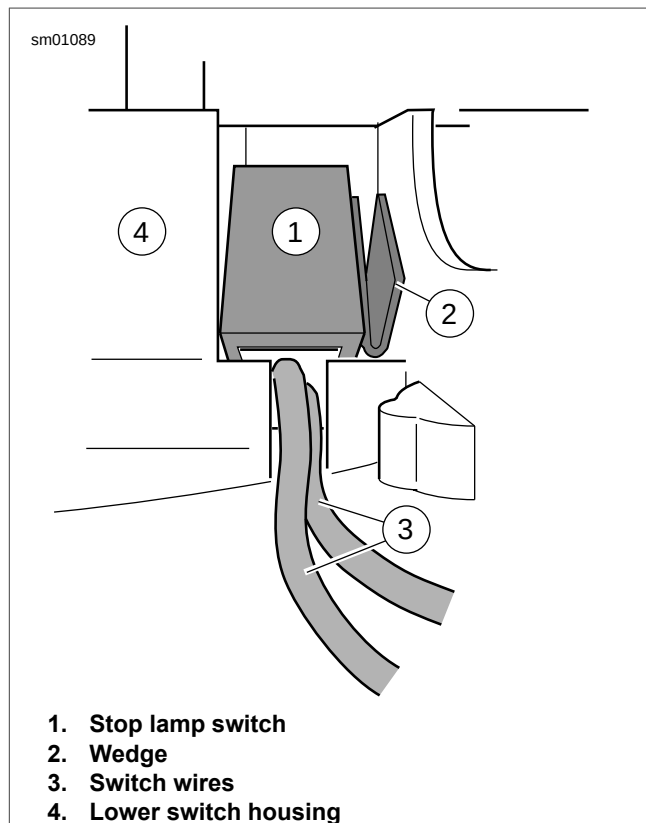

Figure 6-141. Install Stop Lamp Switch
6. See Figure 6-141. Push down on switch (1) so that it bottoms against housing and wires (3) run in groove at base of cavity. With the concave side facing outward, insert wedge (2) between switch and outboard side of switch housing.